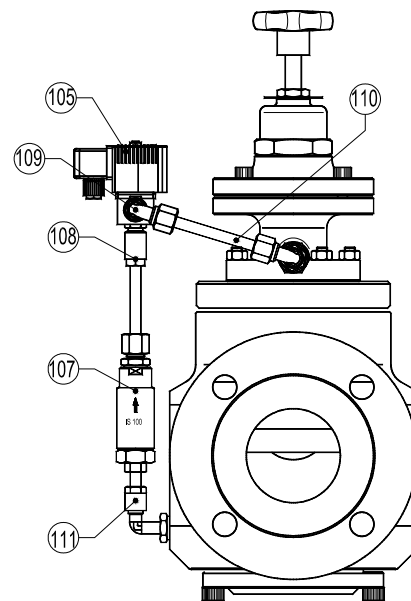

Fig.7
**PRV47E with solenoid valve for electric remote control (Fig.7)**